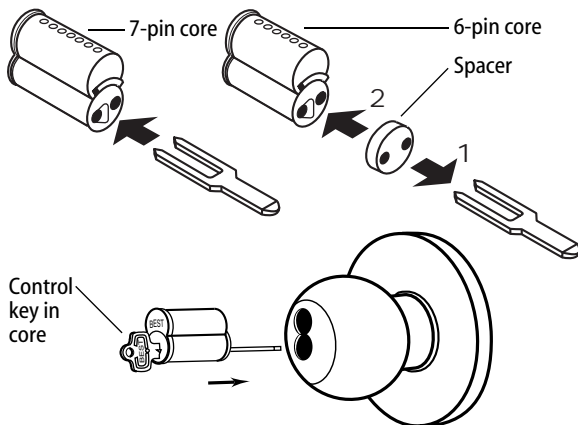

Figure 11 Installing the figure-8 core
**For 6-pin core users only:** Slide the spacer — supplied with your 6-pin cores — over the 7-pin throw member (see Figure 11, top right).
- 1 Insert the throw member (or throw member and spacer) into the back of the core (see Figure 11, top).
- 2 Put the control key into the core and turn the key 15 degrees clockwise.
- 3 Put the core and throw member into the knob with the control key (see Figure 11, bottom).
- 4 Turn the key 15 degrees counterclockwise and remove the key.